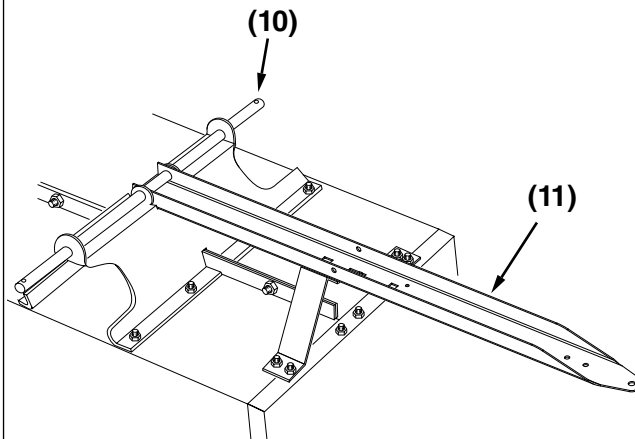

Figure 12
STEP 12 (SEE FIGURE 12): Install the axle (10) through the wheel support and tongue (11) as shown below.